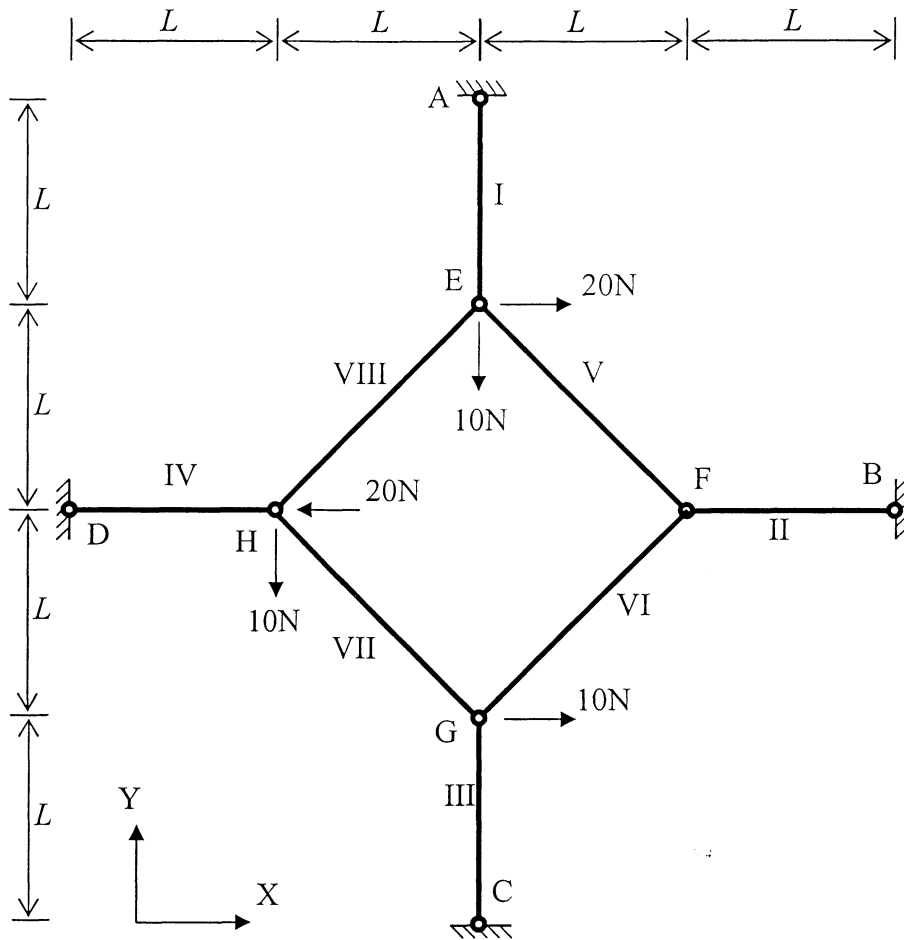

Fig. 1
1 A planar pin-jointed structure, with the dimensions shown in Fig. 1, consists of eight cable members. Each member behaves linear elastically and has axial stiffness EA . The structure must be prestressed to prevent any cable slackening under certain load conditions.
is a set of bar forces in equilibrium with the external loads shown in Fig. 1. [10%]
- (d) The unloaded structure is initially stress free. Hence find the member forces due to the load shown in Fig. 1. [20%]